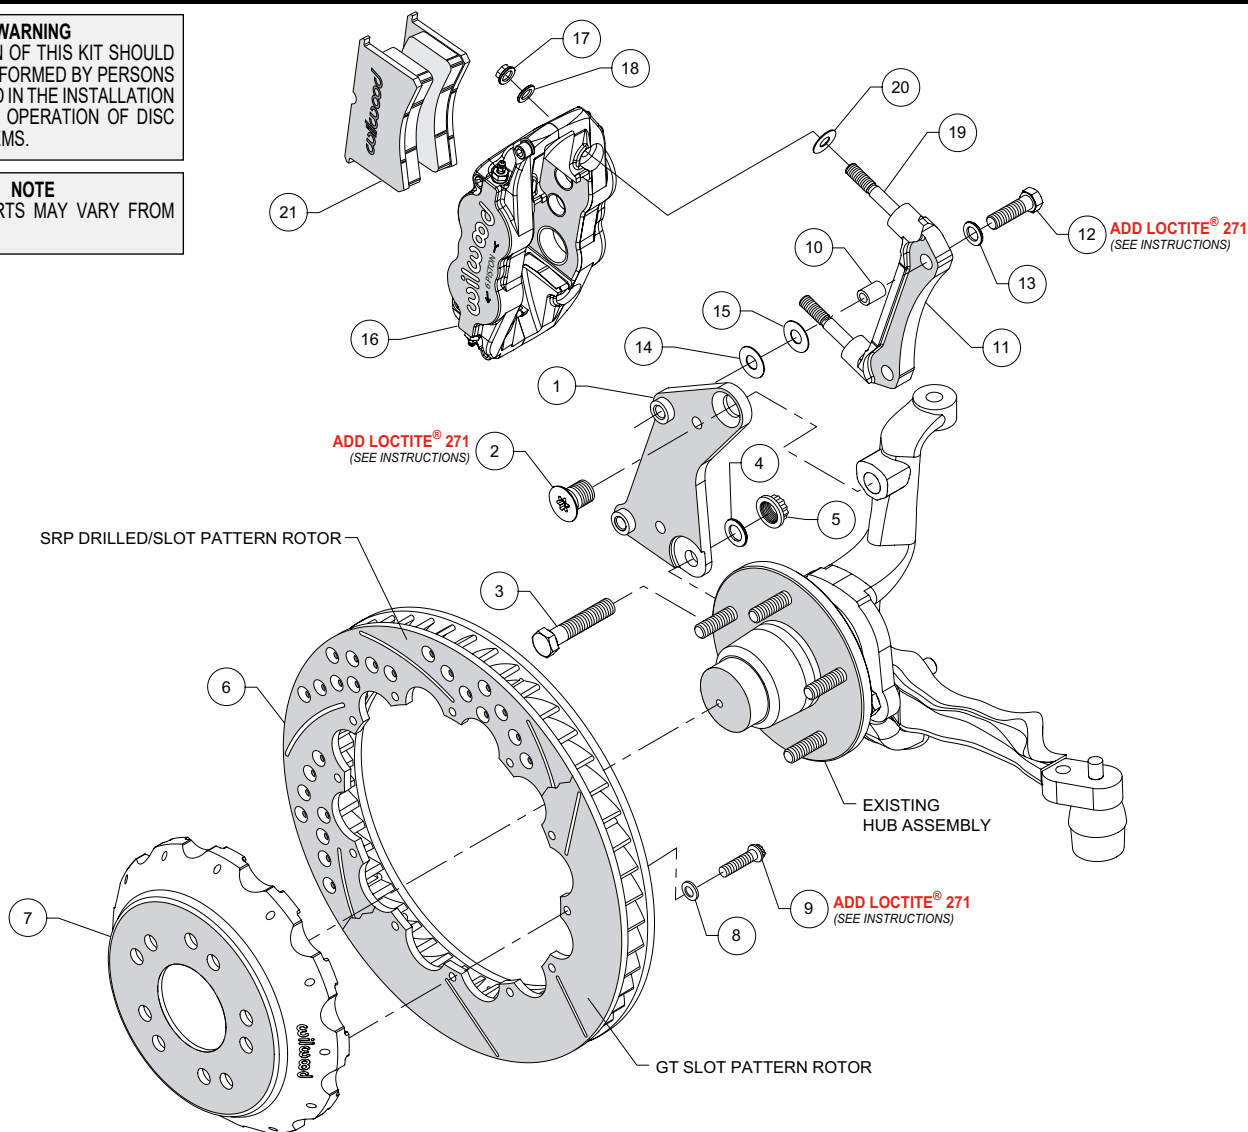

Figure 1. Typical Installation Configuration
- The radial mount caliper bracket assembly (11) should be installed first with clean, dry threads on the mounting bolts. Slide bolt sleeve (10) into the mounting holes of bracket (11). Install the bracket on the back side of the spindle/flat caliper mounting bracket (1) by sliding bolt (12) through washer (13), and through sleeve (10.) Initially place three shim washers (14) between the two brackets (1 and 11) (see Figure 1). The bracket must tighten squarely against the side of the spindle/caliper bracket. Inspect for interference from casting irregularities, machining ridges, burrs, etc. Later, after the caliper, pad, and rotor alignment has been checked, and any necessary shims have been put in place, the mount bolts should be coated with red *Loctite*® 271 and torqued to 47 ft-lbs.
- NOTE:** This kit contains distinct right and left hand calipers that must be mounted in a specific direction, as described below. Initially place one .035" thick shim (20) on each stud (19) as shown in Figure 1. Mount the caliper (16) onto the radial mount bracket (11) using lock nuts (17) and washers (18), Figure 1. Ensure that the caliper is mounted so that the largest pistons are at the rotor exit end of the caliper, in relation to the direction of rotor rotation. Temporarily tighten the lock nuts and view the rotor through the top opening of the caliper. The rotor should be centered in the caliper. If not, adjust by adding or subtracting shims (14 and/or 15) between the spindle/caliper mounting bracket (1) and the radial mount bracket (11). Always use the same amount of shims on each of the two mounting bolts.
- Remove the caliper center bridge pad retainer bolt, nut, and tube from the caliper. Slide the brake pads (21) into place. They should install easily without interference. Check that the outside radius of the brake pad is flush with the outside diameter of the rotor face. Add or subtract shims (20) between the caliper and mount bracket to gain the proper alignment. Reinstall the center bridge pad retainer tube, bolt, and locknut. The locknut should be snug without play in the bolt or tube. Be cautious not to over tighten.
- Once all clearances have been checked, remove the wheel, caliper, hat, and rotor from the spindle and hub. Secure the spindle/caliper mounting bracket (1) to the spindle with bolts (2 and 3) using red *Loctite*® 271 on the bolt threads. Torque bolt (2) to 140 ft-lb and bolt (3) to 77 ft-lb. Remove bolts (12) from the radial mount caliper bracket (11) and coat threads with red *Loctite*® 271 and reinstall. **NOTE:** Only removing one bolt at a time, then coating the threads and reinstalling will help keep all the shims in place. Torque bolts (12) to 47 ft-lb. Reinstall the hat and rotor assembly and again use lug nuts to hold it in place. Reinstall the caliper (16), torque the caliper nuts (17) to 30 ft-lb.